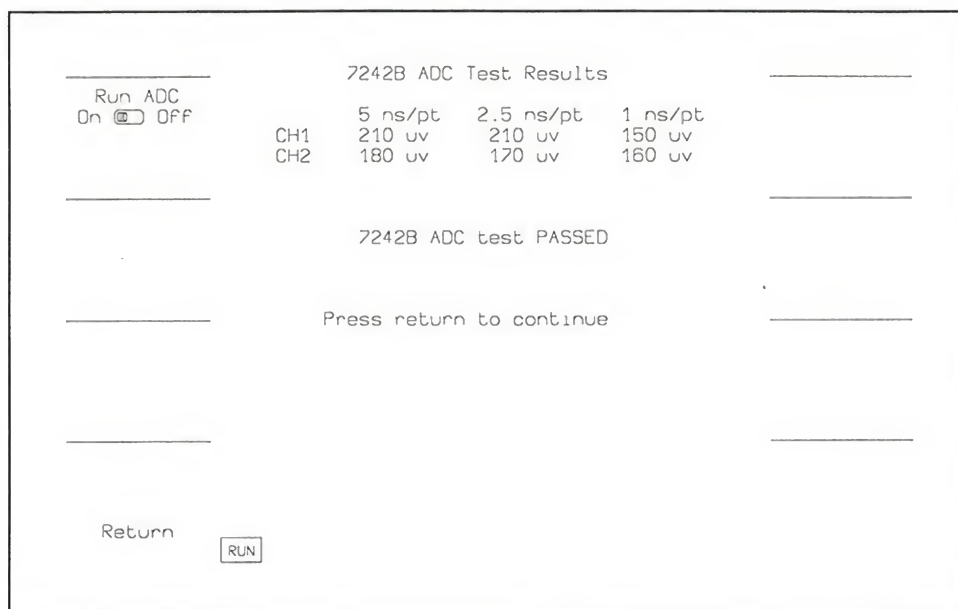

Fig 2.5
- If the selected LOG TYPE is either Printer or Floppy then the adc test data will be collected automatically. If NO LOG was selected, when the test is complete the results will be displayed on the screen as in Fig 2.5. Record these results in Table 2.2. Follow the displayed instructions.